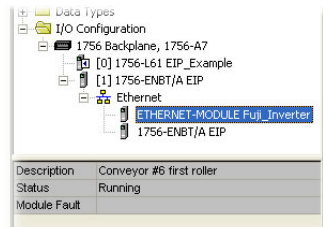

Figure 82: Online Module Status
- 7) Switch to online mode and download the project to the PLC. Verify that the newly-added inverter is available and operating correctly by observing any indications shown on the inverter’s icon. When the inverter’s icon is selected, its status and any available error messages will be displayed in the area below the project tree. Refer to Figure 82. Also confirm that the interface card’s “Network Status” LED should be solid green, indicating an “online/connected” state.